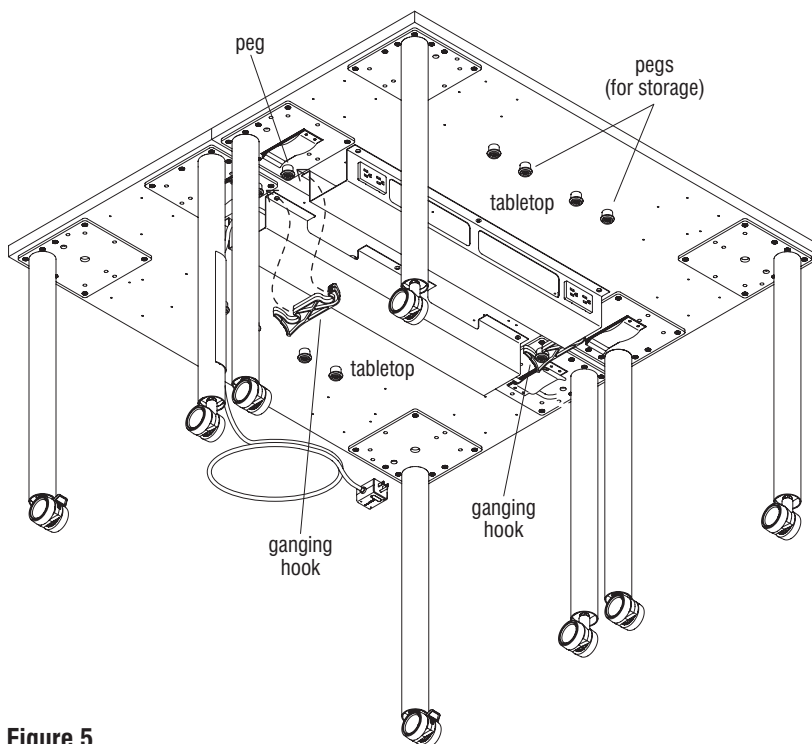

Figure 5
1. Move the tables to be ganged together, such that the two pairs of ganging pegs face each other. With the two ganging hook ends opposite each other, position and snap the two ganging hooks onto their respective ganging pegs to gang tables together as illustrated in Figure 5.